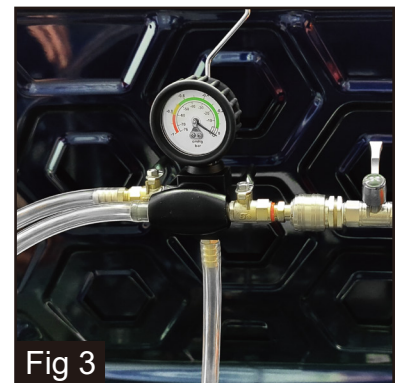

Fig 3
- 9 Open the coolant valve, and the coolant will be introduced to the cooling system automatically (Fig 3)